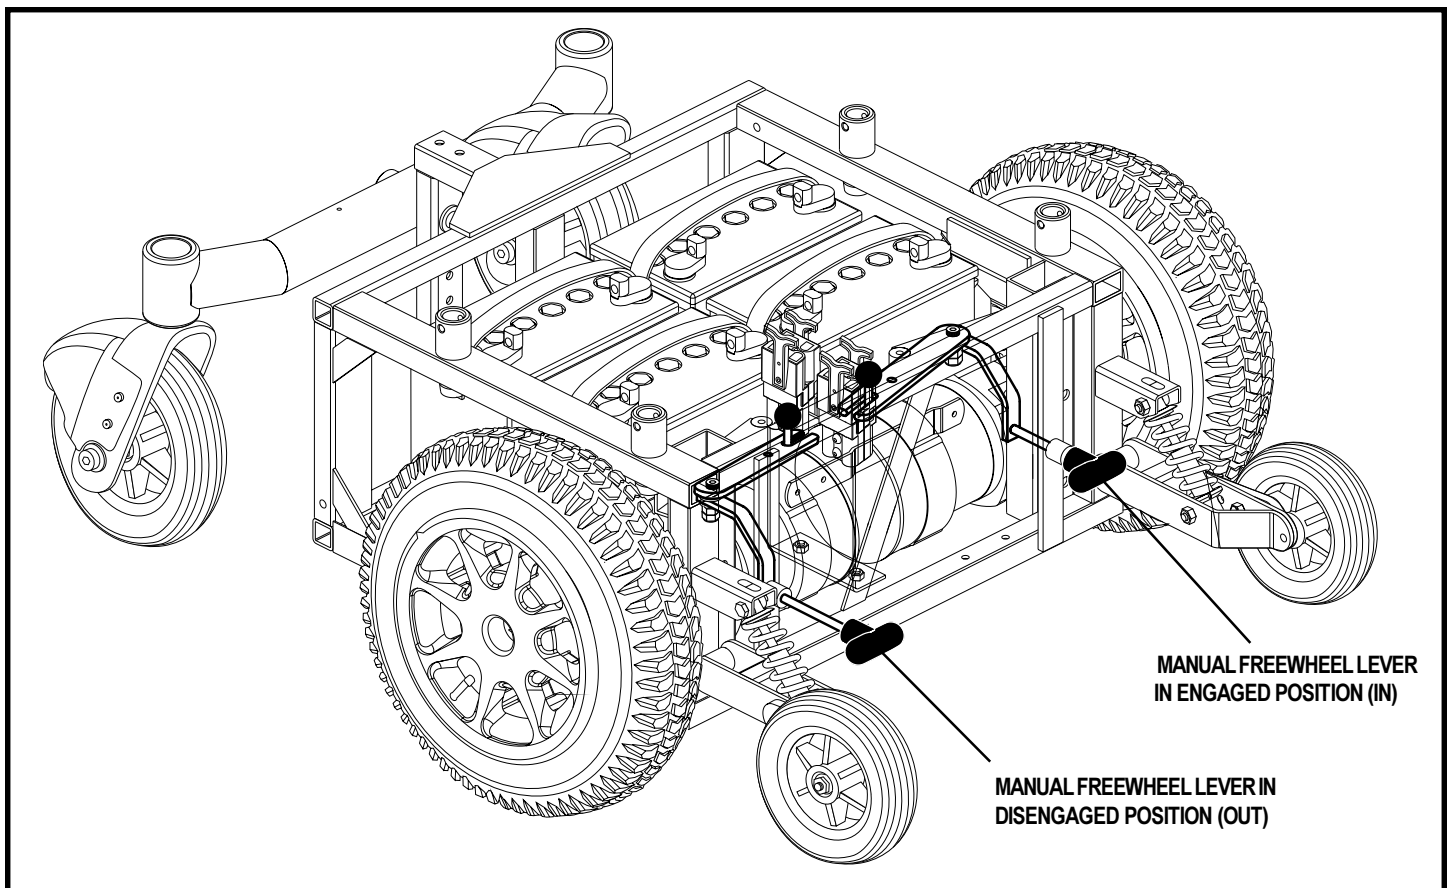

Figure 8. Manual Freewheel Levers
1. Locate the levers on the front of the power base. See figure 8.